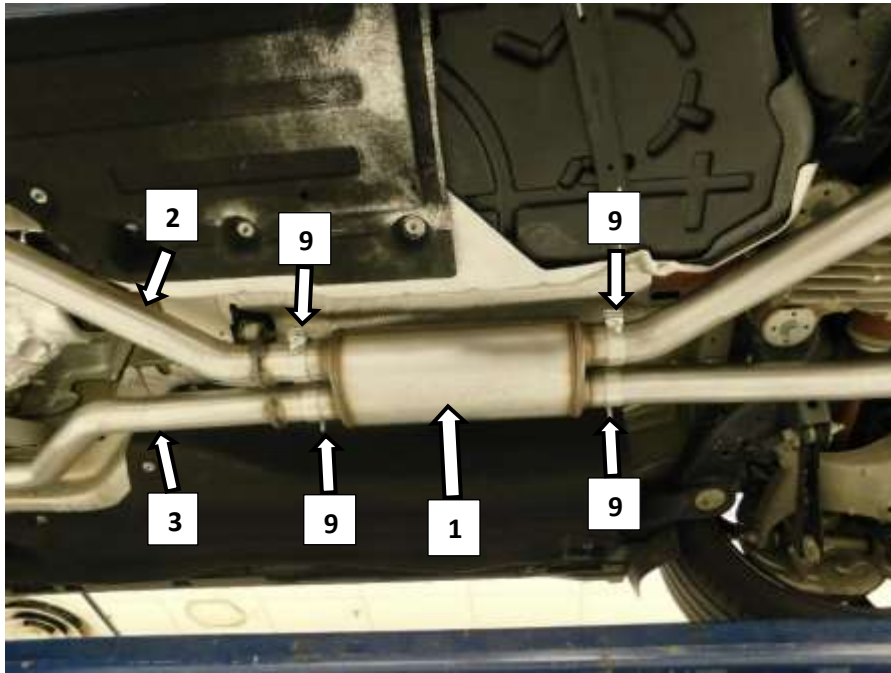

Figure 6
4. Install the muffler (1) with the logo reading front to back on to the muffler inlet pipes (2)(3), slip the 3 inch band clamps (9) from the muffler inlet pipes on to the muffler inlets. Align the muffler even with the heat shield left side edge and level. Tighten the band clamps and support the muffler. **Fig.6**
5. Install a 3 inch band clamp (9) over each muffler outlet with the bolts to the outside and the nuts facing down. **Fig.6**